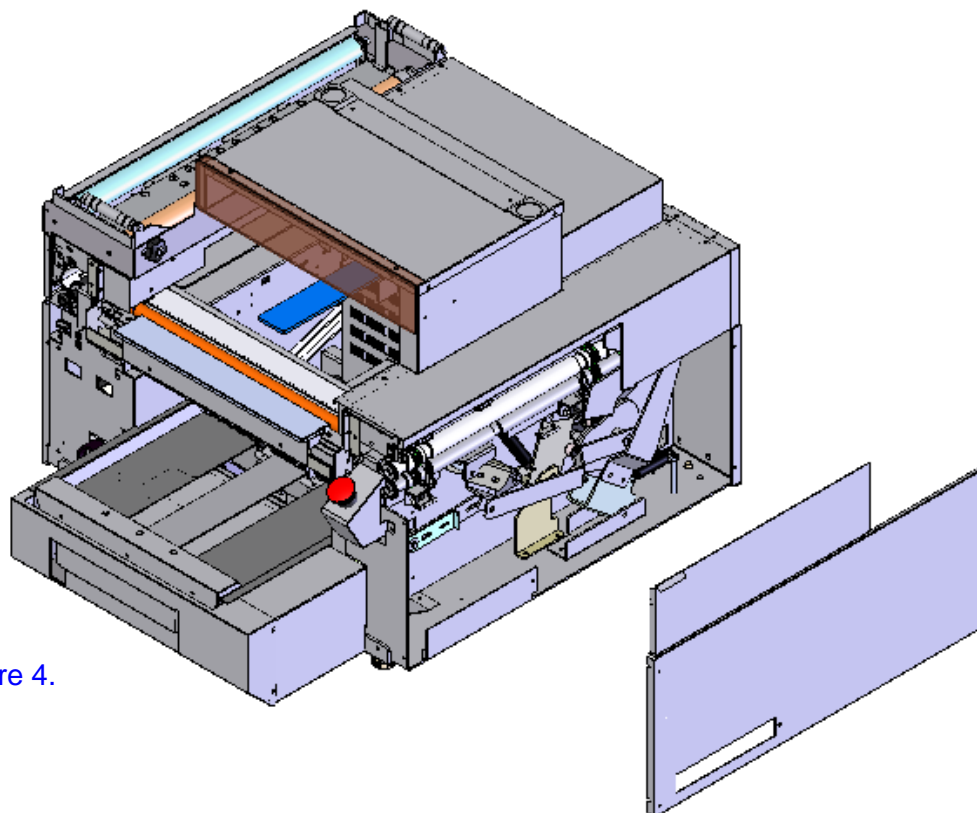

Figure 4.
9. Remove the right side cover (loosen four screws). See Figure 4.